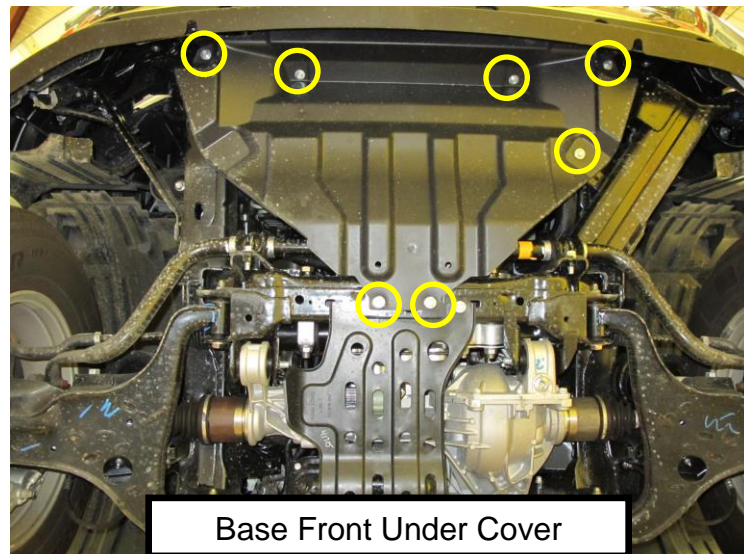

Figure 1
1. Locate and remove the front under cover (Figure 1).
- Remove the (7) retaining bolts.